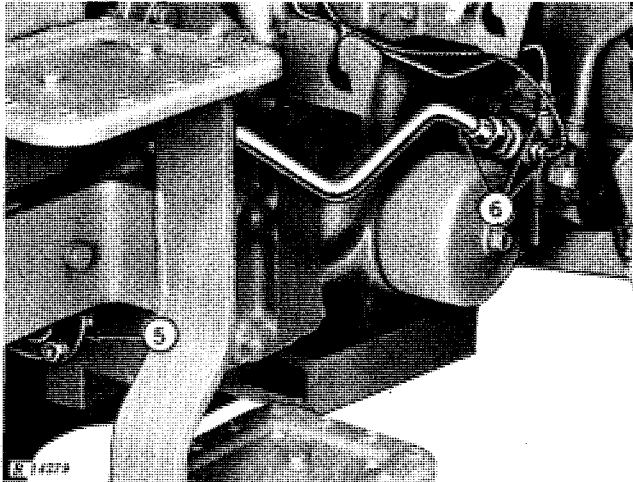

Fig. 16-Left-Hand Side of Transmission Case
5. Remove PTO shaft quill (Fig. 16). Catch the trapped oil.